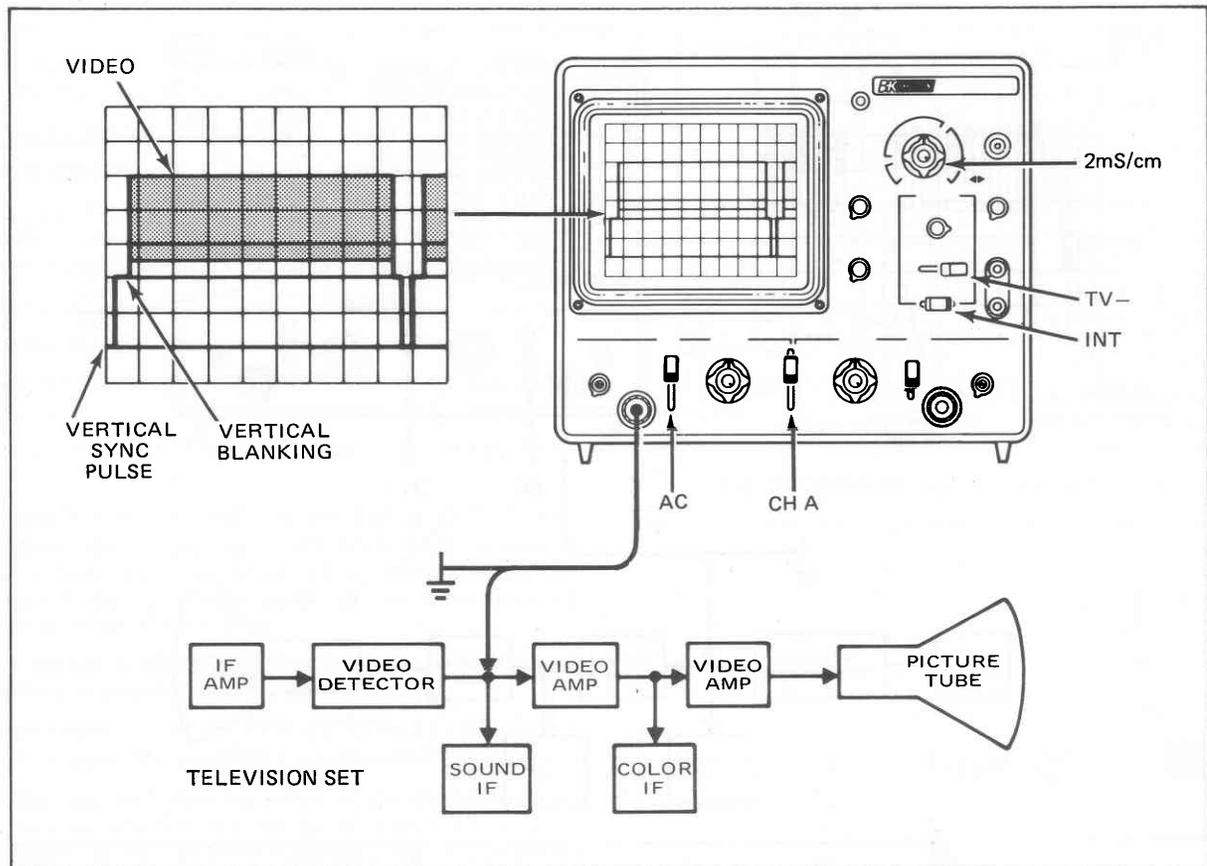
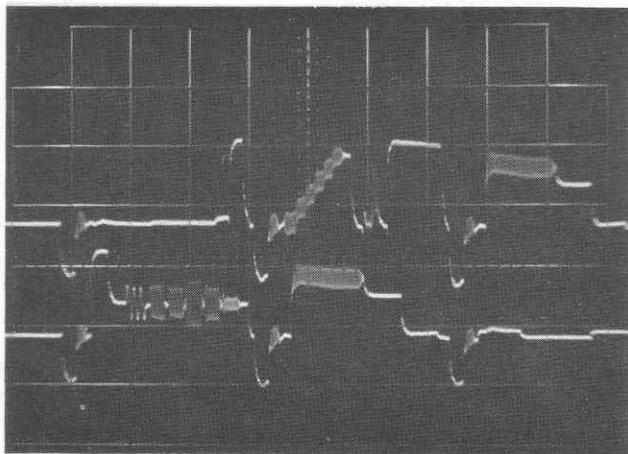
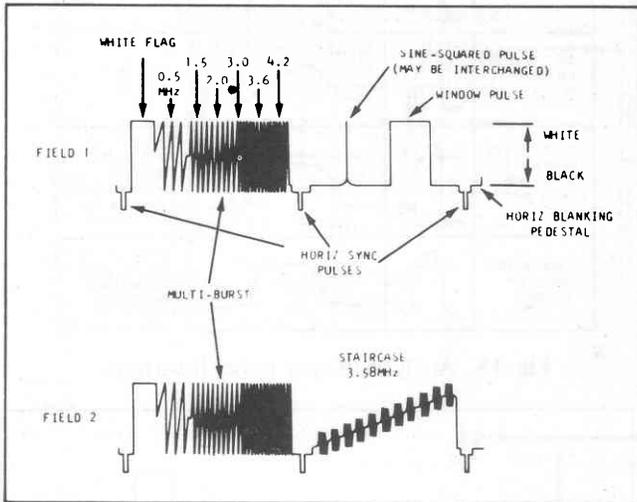
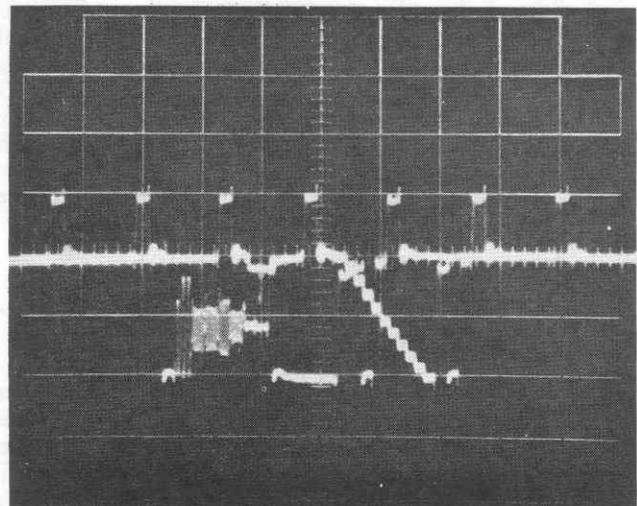

Fig. 14. Set-up for viewing fields 1 and 2 of VITS information.
Fig. 15. Oscilloscope presentation of fields 1 and 2 of VITS information.
Fig. 20. VITS signal, fields 1 and 2.
Fig. 22. Oscilloscope presentation of VITS information, single-trace operation.
Many of the television servicing procedures can be performed using single-trace operation. These are outlined later in the applications section covering single-trace operations. One of these procedures, viewing the VITS (vertical interval test signal), can be accomplished much more effectively using a dual-trace oscilloscope. As outlined in the single-trace applications section and as shown in Fig. 20 and 21, the information on the Field #1 and Field #2 vertical blanking interval pulse is different. This is shown in detail in Fig. 20. Also, because the oscilloscope sweep is synchronized to the vertical blanking interval waveform, the Field #1 and Field #2 waveforms are superimposed onto each other as shown in Fig. 22. With dual-trace operation, the signal information on each blanking pulse can be viewed separately without overlapping. Fig. 14 indicates the oscilloscope control setting for viewing the alternate VITS.
2. The control settings of Fig. 14 are those required to obtain a 2-field vertical display on Channel A.
9. Pull the ◀POS control outward to obtain an additional 5X magnification. Rotate the control in a counterclockwise direction moving the traces to the left until the expanded VITS information appears as shown in Fig. 15.
Fig. 15 shows the dual-trace presentation of the Field #1 and Field #2 VITS information. The Field #1 information is displayed on the trace.
The transmitted VITS is a precision sequence of specific frequency, amplitude, and waveshape as shown in Fig. 20 and 21. The television networks use the precision signals for adjustment and checking of network transmission equipment, but the technician can use them to evaluate television set performance. The first frame of the VITS (line 17) begins with a "flag" of white video, followed by sine wave frequencies of 0.5 MHz, 1.5 MHz, 2 MHz, 3 MHz, 3.6 MHz, (3.58 MHz) and 4.2 MHz. This sequence of frequencies is called the "multi-burst." The first frame of Field #2 (line 279) also contains an identical multi-burst. This multi-burst portion of the VITS is the portion that can be most valuable to the technician. The second frame of the VITS (lines 18 and 280), which contains the sine-squared pulse, window pulse and the staircase of 3.58 MHz bursts at progressively lighter shading, are valuable to the network, but have less value to the technician. As seen on the television screen, Field #1 is interlaced with Field #2 so that line 17 is followed by line
7. The waveform should be similar to that shown in Fig. 22. For the oscilloscope display, each vertical sync pulse starts a new sweep. This causes line 17 and line 279 (multi-burst) to be superimposed, as are lines 18
8. The presentation of the preceding paragraphs (Fig. 22) is the limit of observation possible with a single-trace oscilloscope. With the Model 1471 oscilloscope, however, a single-field VITS presentation can be obtained by placing the MODE switch in the dual position. This causes the Channel B information to be displayed on alternate sweeps, as are Field #1 and Field #2 VITS. Because there is no provision for preselecting Field #1 or Field #2 information, either Field #1 or Field #2 (Fig. 15) will appear. The multi-burst information in the VITS is the most valuable for troubleshooting television receivers and, because it is present on both Field #1 and Field #2 VITS, either can be used for troubleshooting and signal tracing.